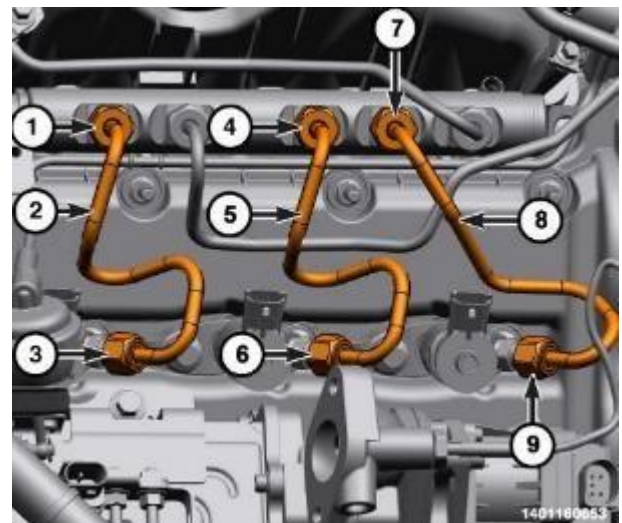

Figure 19 – Right Bank Fuel Pipes
33. Unscrew the union nuts (7 and 9) and remove cylinder No. 1 fuel tube (8) and the discard fuel tube (Figure 19).
34. Install protective caps to the fuel injector and fuel rail for cylinder No. 1 (Figure 19).
35. Unscrew the union nuts (4, 6) and remove cylinder No. 2 fuel tube (5), and discard the fuel tube (Figure 19).
36. Install protective caps to the fuel injector and fuel rail for cylinder No. 2 (Figure 19).
37. Unscrew the union nuts (1, 3) and remove cylinder No. 3 fuel tube (2), and discard the fuel tube (Figure 19).
38. Install protective caps to the fuel injector and fuel rail for cylinder No. 3 (Figure 19).